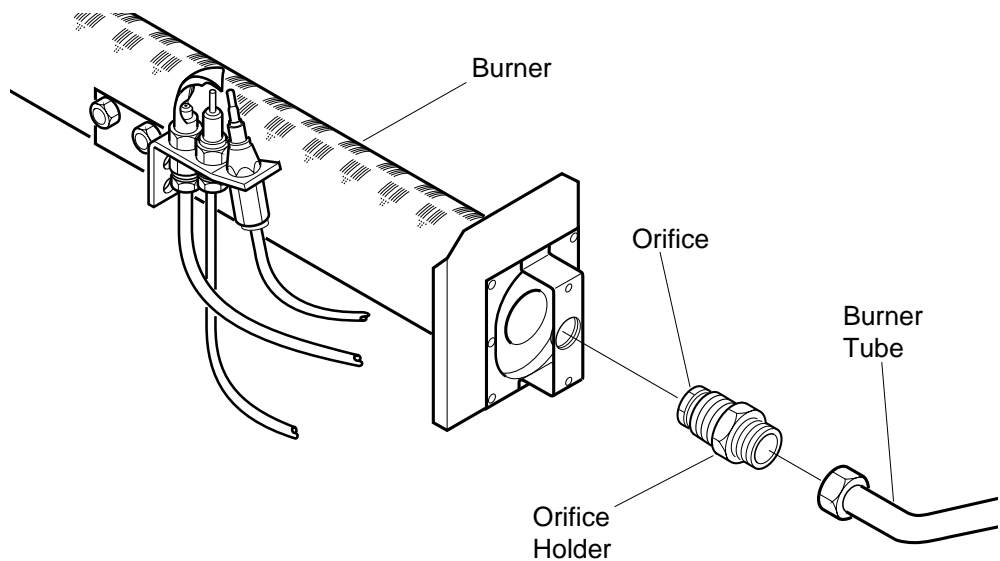

Figure 24 - Orifice Location (35,000 BTU/Hr Burner Shown)
3. Disconnect burner tube from orifice holder (see Figure 24).
4. Remove orifice holder from burner (see Figure 24).